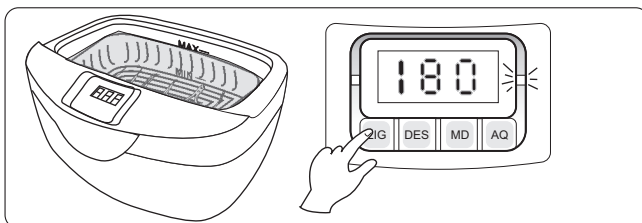
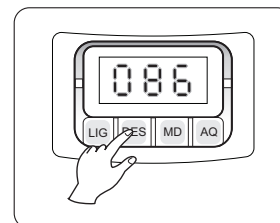

Fig. 14
Fig.15
- 7►Press the **LIG** key to start cleaning (Fig. 14), at this moment the operator will hear the typical sound of the cavitation process. To pause the cycle press the **DES** key (Fig. 15) to resume cleaning, press **LIG** again.